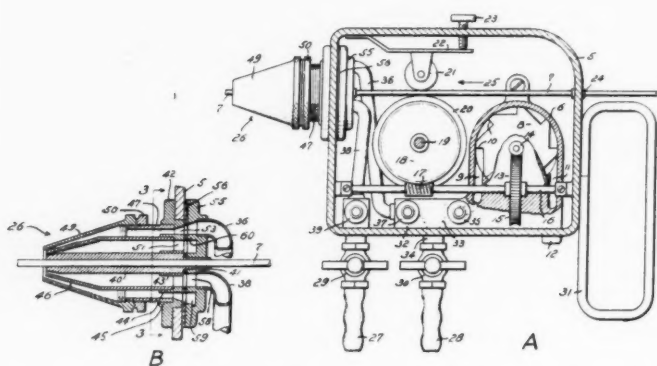

Fig. 1—Metal enters gun in rod form, is fed into a gas flame and then is projected by air blast
**S**PRAYED metal coatings (M. D., Feb. P. 28) are applied by such devices as that recently patented by Charles Boyden for Metallizing Corp. of America. This gun, *Fig. 1, A*, is designed for fusing, spraying and projecting fusible material supplied in rod form, by means of
Nozzle 26 is designed for fusing rod 7 by means of a high temperature gas flame and thereafter spraying it upon the surface to be coated. Combustible gas is led to the burner through pipe 38, the flow being regulated by screw valve 39. The burner construction comprises a central tubular member 40, *Fig. 1, B*, through which rod 7 is conducted. Gas supply
A feature of the equipment is the independent regulation of the air supply to the burner and air motor. Motor inlet passage 9, *Fig. 1, A*, communicates with chamber 33 and the flow therethrough to the motor is regulated by screw valve 35. The air pipe 36 leading to the burner also communicates with chamber 33 and the flow is regulated by valve 37.